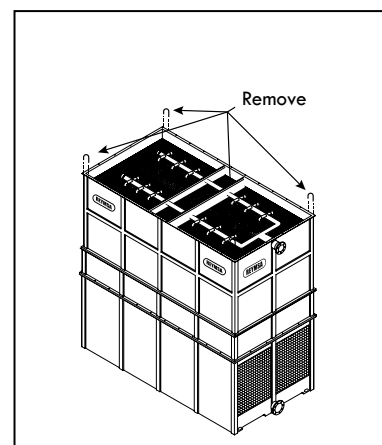

Figure A-88: Removing U-bolts from the Upper Body section of a modular tower (RTGM-D, RTGM-E, RTGMTC-G & RTGMTC-H)
- N. Only for RTGM-D, RTGM-E, RTGMTC-G & RTGMTC-H models:** Remove U-bolts from top of the Upper Body section (see Figure A-88).